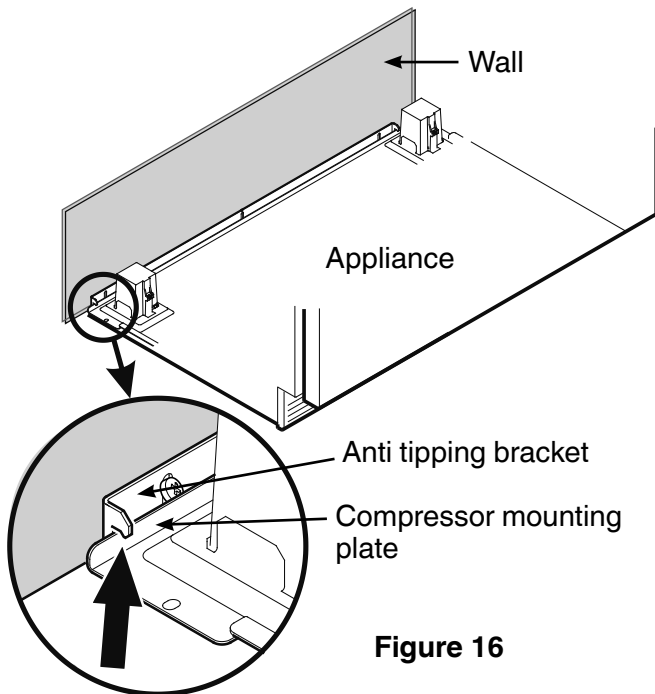

Figure 16
4. Push the appliance slowly to the back wall until the compressor mounting plate makes contact with the anti-tipping bracket (Figure 16).
**To prevent the appliance from tipping forward the compressor mounting plate must have contact with the anti tipping bracket (Figure 16).**